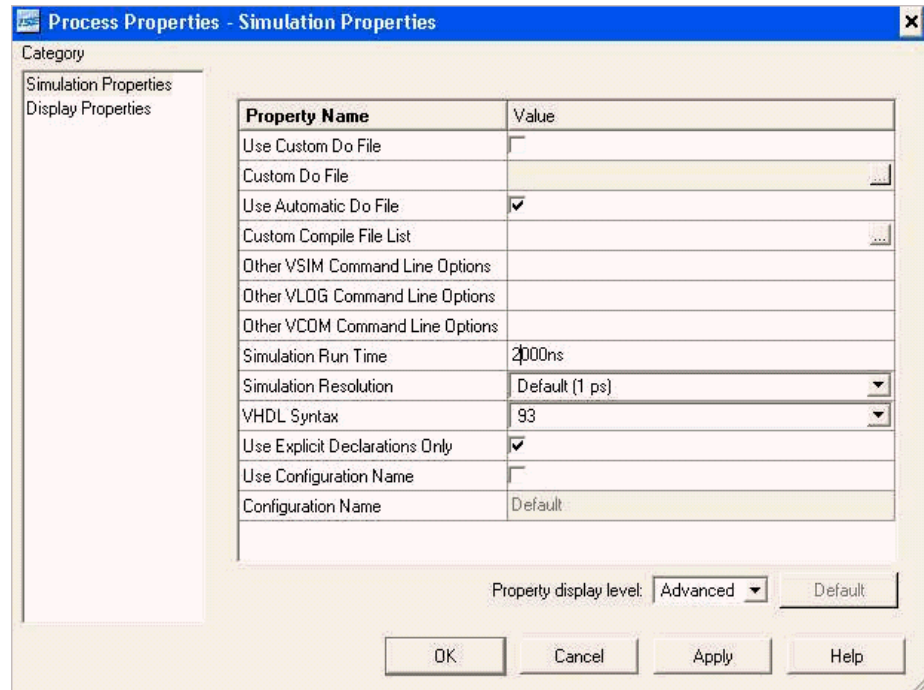

Figure 4-3: Behavioral Simulation Process Properties
5. In the Process Properties dialog box, (Figure 4-3) set the Property display level to **Advanced**. This global setting enables you to now see all available properties.